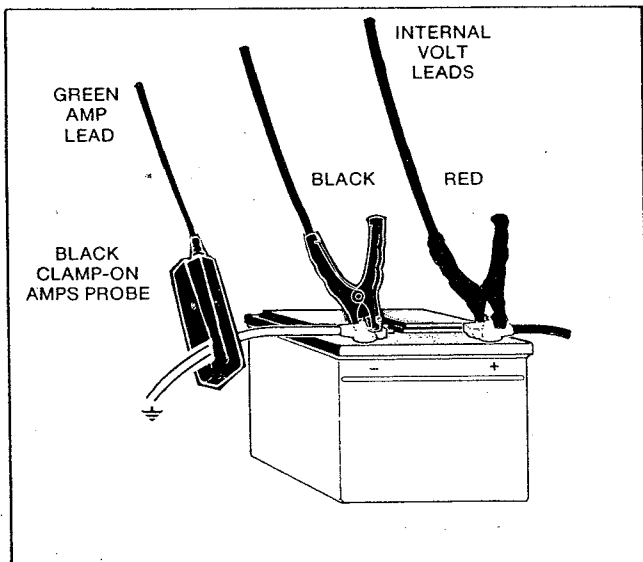

FIGURE 11. Ammeter and internal lead connections used during charging system testing.
- D. Connect tester leads as shown in Figures 11 and 12. Reverse volt leads when testing vehicles with positive ground electrical systems.
- Observing polarity, connect test leads as shown in Figures 11 and 13. Reverse volt leads for positive ground systems.
- Observing polarity, connect test leads as shown in Figures 11 and 14. Reverse volt leads for positive ground systems.
- C. Observing polarity, connect test leads as shown in Figures 11 and 15. Reverse volt leads for positive ground systems.